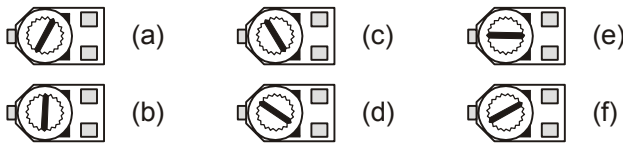

Figure 5-6
- √ Turn the potentiometer clockwise until it reaches its mechanical limit shown in Figure 5-6.
- √ Gradually rotate the potentiometer counterclockwise to the positions shown in Figure 5-6 (b), (c), (d), (e), and (f) noting the how brightly the LED glows at each position.